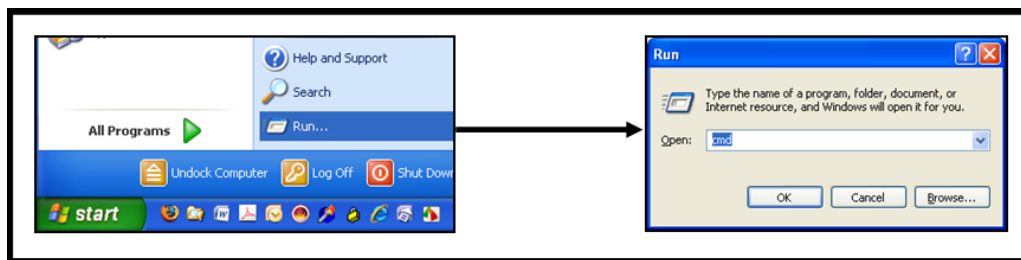

Fig 4.14
- 15) The network setup and connection on the Lantronix Device can now be tested and verified. Open up the DOS command prompt (Fig 4.14) by going to **Start Menu – Run – type in cmd – click OK.**